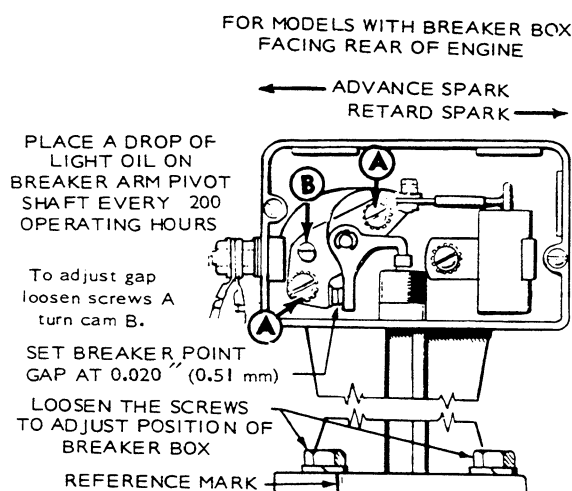

FIGURE 11. BREAKER POINTS
To check the breaker point gap, remove the breaker box cover and crank the engine slowly by hand in the direction of crankshaft rotation (clockwise as viewed from engine front) until the points just start to open. Continue turning until the points are fully separated (about 1/4 turn). Using a clean, flat thickness gauge, check for a proper separation of .020 inch (0.51 mm). To adjust the gap (Figure 11), loosen locking screws (A) and turn the off-center screw (B) until separation is correct. Retighten the locking screws (A) and recheck gap.
To change the timing setting, loosen the two breaker box mounting screws and slide the breaker box assembly to advance or retard the ignition spark (Figure 11).